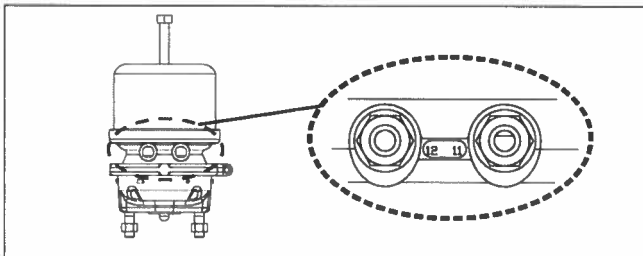

Figure 12 – Port Designations
3. If the air hoses were disconnected, reconnect the air hoses as marked and be sure that each hose is not twisted or in contact with moving vehicle components. The air hose routing must allow for full caliper travel. Note that for spring brake service chambers the ports are indicated by: "11" Service Brake Port and "12" Spring Brake Port. (See Figure 12).